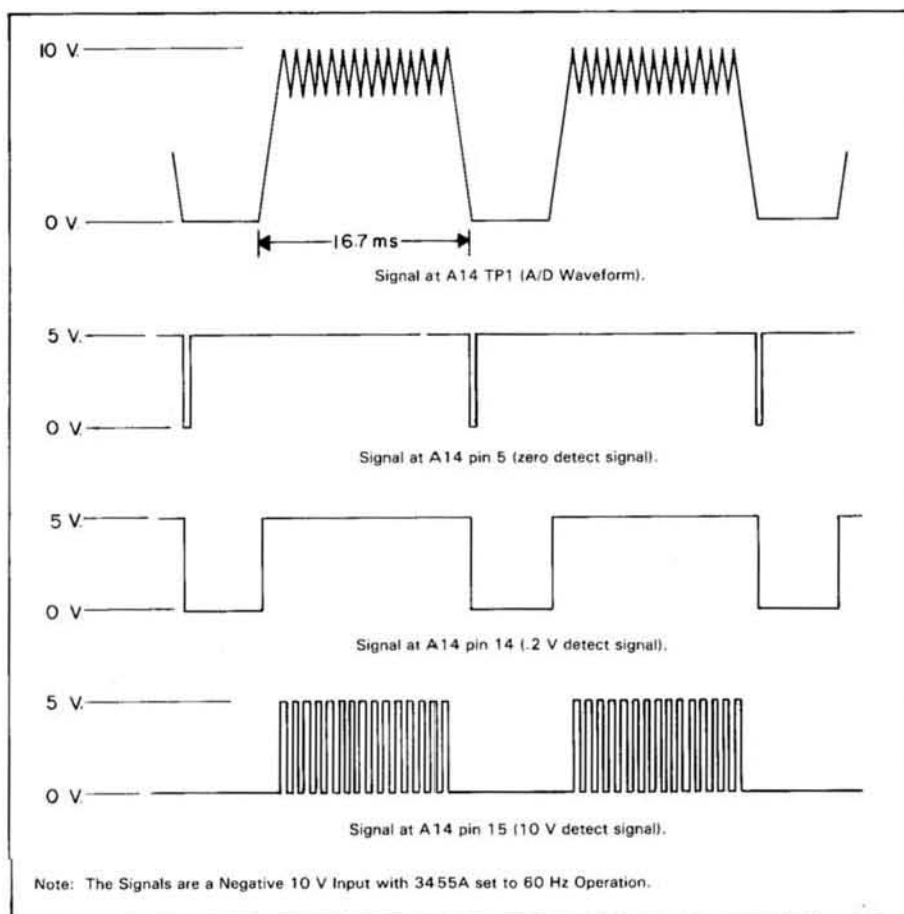

Figure 8-E-1. A/D Waveforms.
- d. With an oscilloscope measure the waveform at A10TP1. The waveform should look like top waveform in Figure 8-E-1.
c. Check for the correct operation of A14U5 and its associated circuitry. Since U5 and its associated circuitry is an absolute amplifier, the output of the amplifier (emitter of U6) should be the same as the signal at TP1. Therefore, pins 14 and 15 of the A14 board should also show the absolute value of the signal at TP1. The correct signals for a -10 V input to the 3455A are shown in Figure 8-E-1. If the signals at A14P1 pins 14, 15, and S are incorrect, troubleshoot the detect circuits.